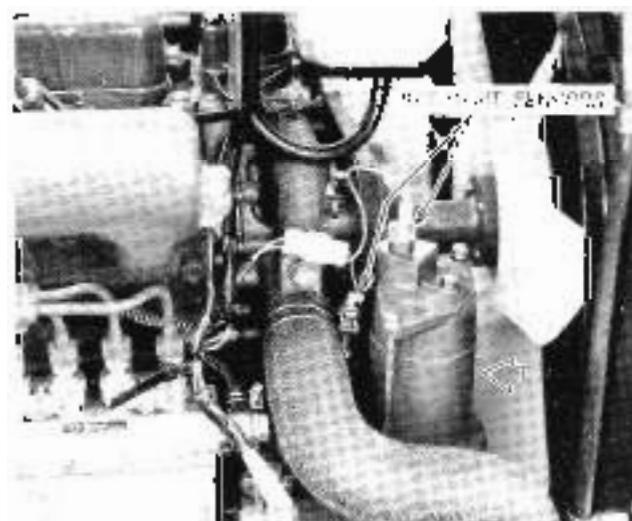

Figure 43 - Hydraulic System Filter
1. Turn the idle lever clockwise. Figure 43.